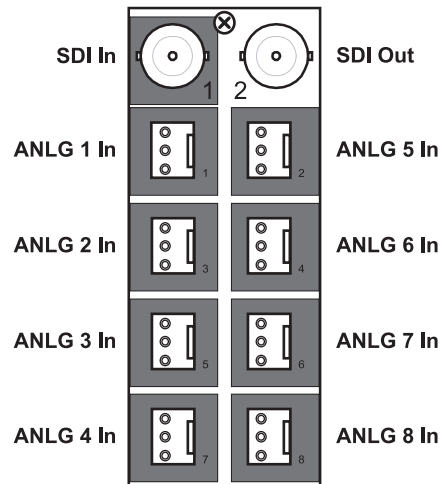

Figure 2.5 Cable Connections for the MUX-8258-8C
- **8310AR-034** Rear Module — Each rear module occupies one slot and accommodates one card. This rear module provides one SDI input, one SDI output, and eight analog inputs. (**Figure 2.5**)
- **8320AR-034 Rear Module** — Each rear module occupies two slots and accommodates one card. This rear module provides one SDI input, one SDI output, and eight analog inputs. (**Figure 2.5**)